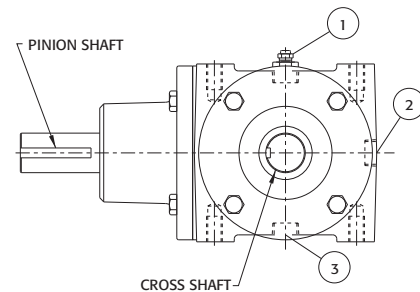
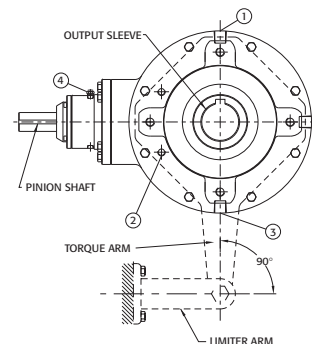

FIGURE B1 - MOUNTING POSITION, GROUP 1, 3 & 5
FIGURE B2 - MOUNTING POSITION, GROUP 2
All HUB CITY Bevel Gear Drives are splash lubricated. Typical mounting positions with all shafts in horizontal position are shown in Figures B1 & B2. Fill/breather, level and drain plugs have been provided to meet most mounting requirements. Group 4 Drives may be mounted in any position and are prefilled at factory with a semi-fluid grease designed for a wide variety of applications. Group 5 drives are factory filled with a Lubricant, which has an AGMA Number 4EP and an ISO-ASTM Viscosity Grade 150, for horizontal shaft mounting as shown in figure B1.
**BEVEL GEAR DRIVES:** Review the approved mounting positions and lubrication levels identified in Figures B1 & B2 on this sheet. Do not deviate from the mounting positions or lubrication levels shown without contacting the factory.
**BEFORE OPERATING BEVEL GEAR DRIVES** (Except Group 4 and Group 5 Drives) – Remove Breather and/or fill Plug (1, Figures B1 & B2) and Oil Level Plug (2, Figures B1 & B2). Fill gearbox with a recommended lubricant (see APPROXIMATE OIL CAPACITY CHART in these instructions) and GEAR LUBRICANT page of these instructions) until lubricant starts coming out oil level plug hole. Clean thread on the removed plugs and the plug holes with degreaser. Install plugs securely in gear case. Note – Breather and/or fill Plug (1, Figure B1 & B2) must always be installed in the top of gear case, opposite Drain Plug (3, Figure B1 & B2). Note – Models 790, 920 and 950 have the breather (4, Figure B2) installed in the pinion housing.
**SHAFT MOUNTED BEVEL GEAR DRIVES, Group 2 Drives** – Driven shaft should be supported independently with pillow block bearings, located as close to Bevel Gear Drive as possible. A suitable Torque Arm, shown in dotted line (Figure B2) must be provided (not supplied) to keep unit from rotating. A rigid torque arm will cause bearings to “load up” and cause excessive wear. To prevent this, provide a slight amount of “float” at the pivot point. Note that torque arm must be fastened to all mounting pads.